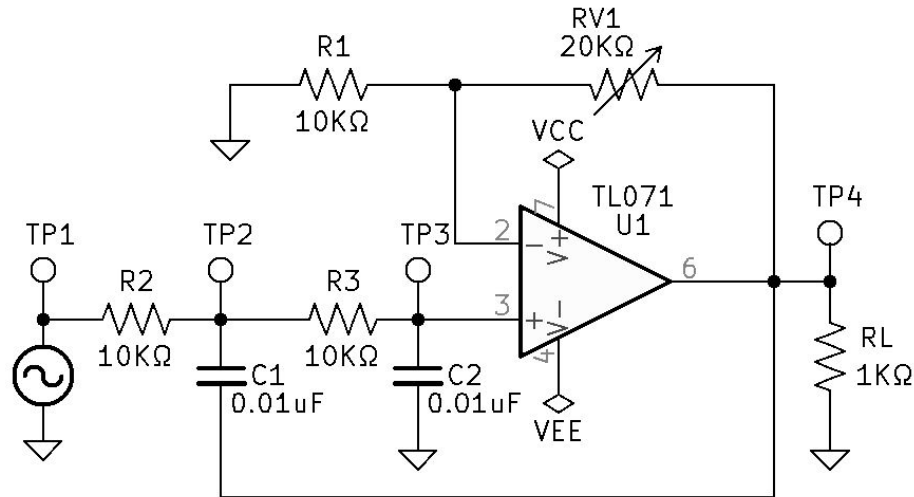

Figure 8.9: Bessel, Butterworth, Chebyshev Frequency Response Test Circuit.
| Figure 8.9 | $TP1$ | $TP2$ | $TP3$ | $\frac{TP1}{TP3}$ | $RV1$ | $TP4$ | ΔV |
1. See Figure 8.9 *Bessel, Butterworth, Chebyshev Frequency Response Test Circuit*.